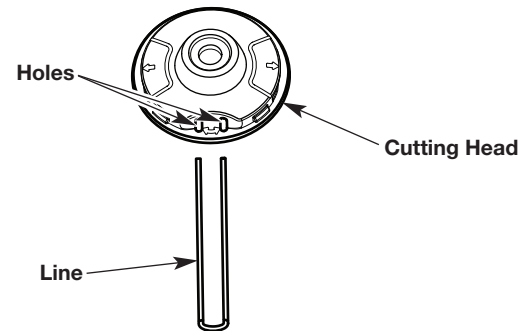

Fig. 14
3. Insert the ends of the new trimming line into the holes in the cutting head (Fig. 14). Push the line through the holes until both ends protrude from the positioning tunnels (Fig. 15).